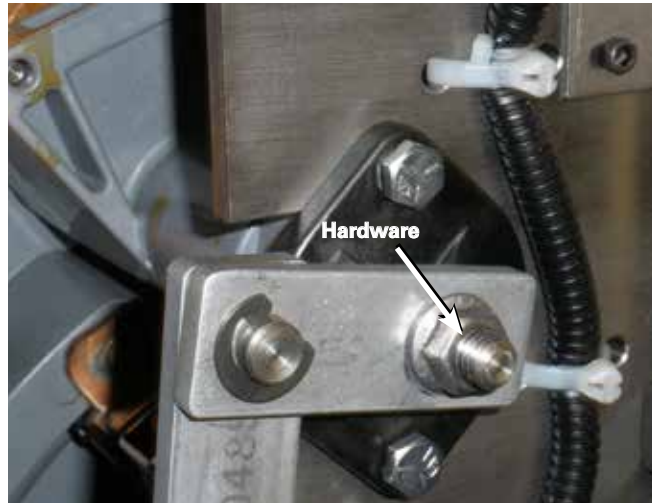

Figure 49. Fastening reversing segment.
21. Place the self-locking nut onto the reversing segment shaft and then tighten with a 9/16" wrench, while holding the reversing switch assembly to prevent it from moving. The nut should be tightened to a torque of 180 to 192 lb-ins (20.3 to 21.6 Nm). See Figure 49.